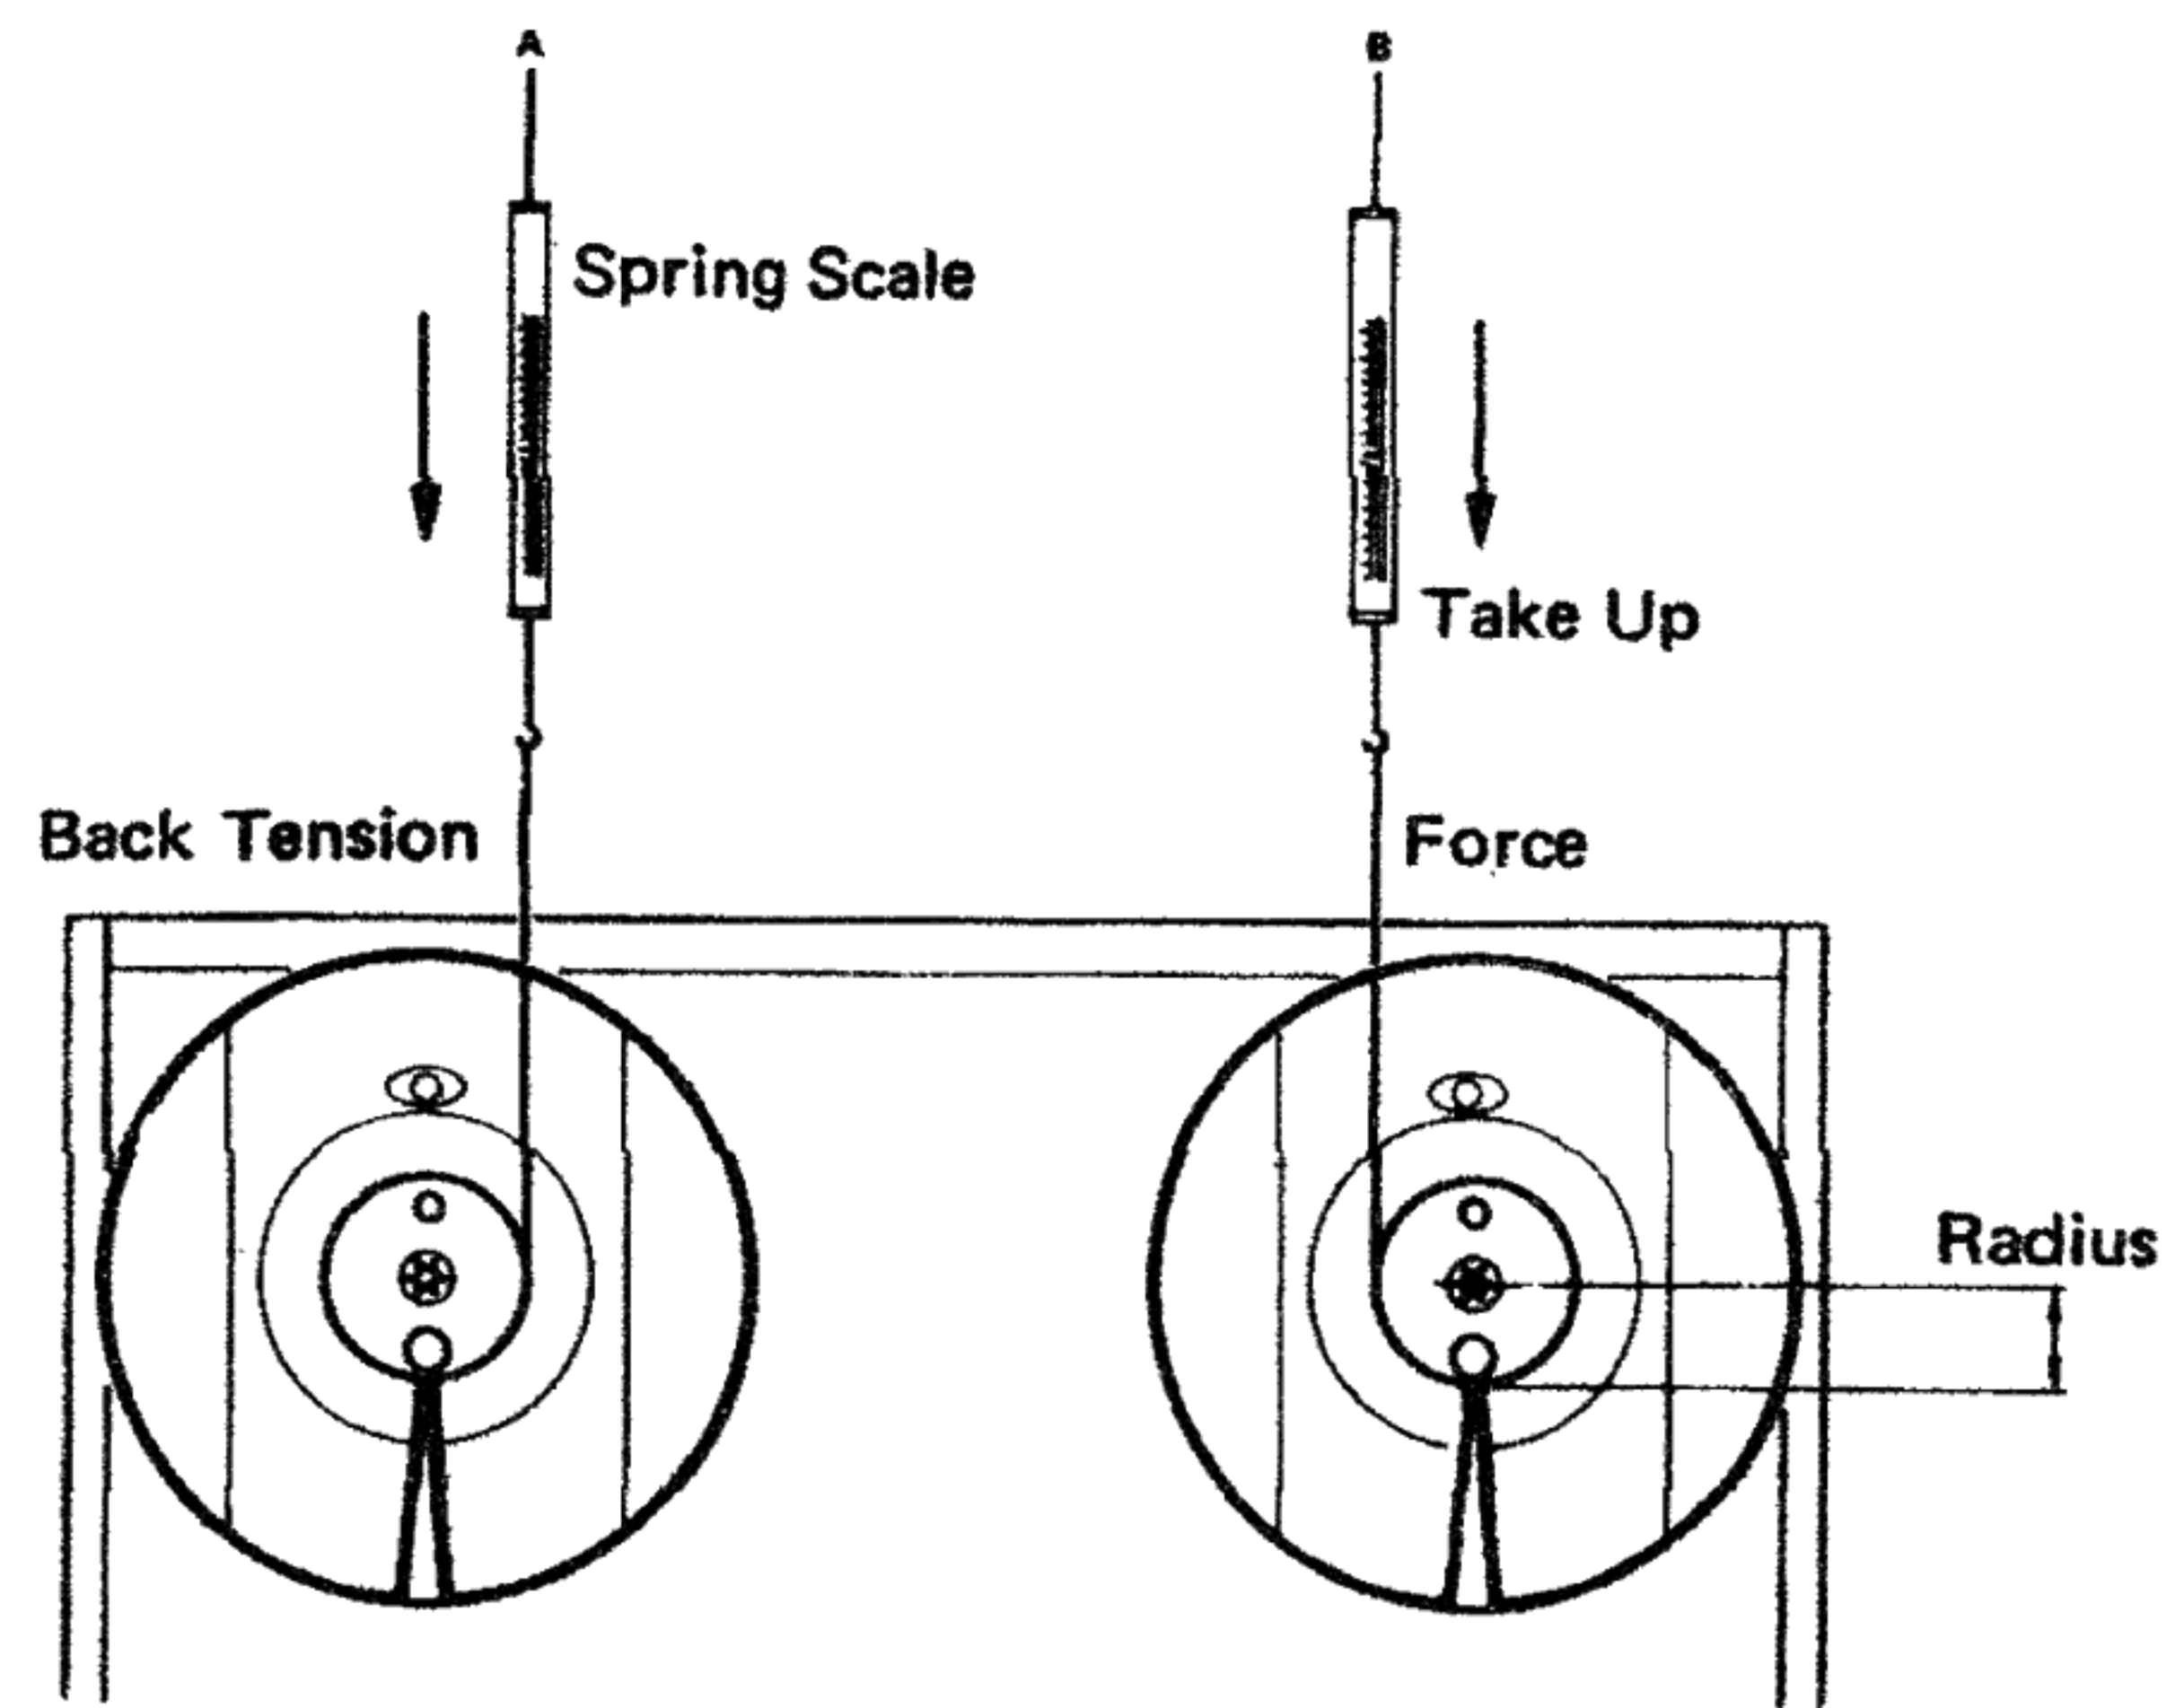

Fig. 4-5
5. Hold the spring scale with enough force to allow steady reading. See Fig. 4-5.